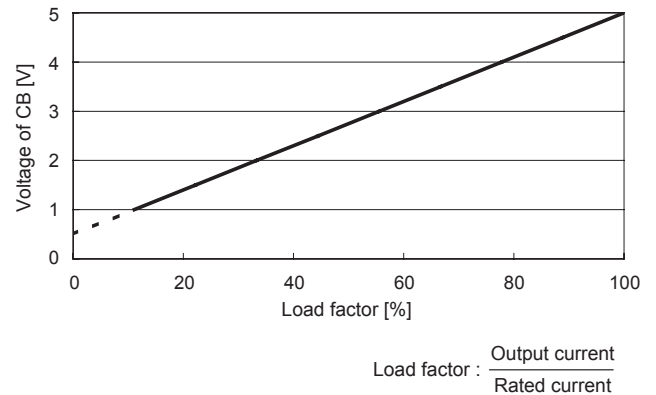

Fig.4.1 Load factor conversion graph
■ Fig.4.1 shows the relationship between the voltage of the terminal CB and the output current.
The output current shown in Fig.4.1 should be used only as a guide.